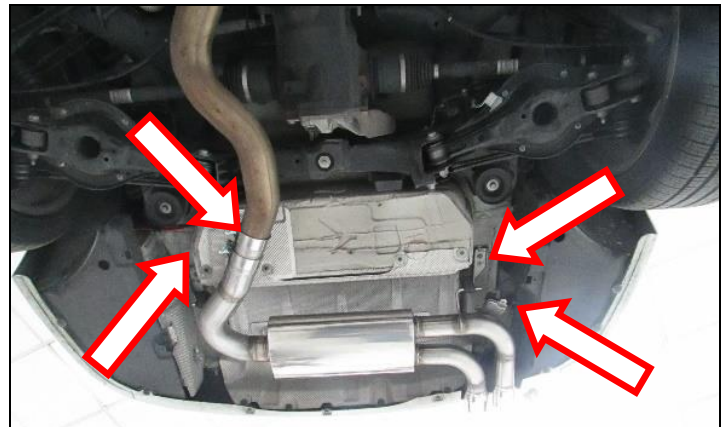

Figure 9
4. Install the Blackheart muffler and tighten (x2) 13mm head nuts on the right and left side hanger bracket plug in the wire going to the exhaust valve. Line up the exhaust tips and tighten (x1) 3" band clamp (**Figure 9**).